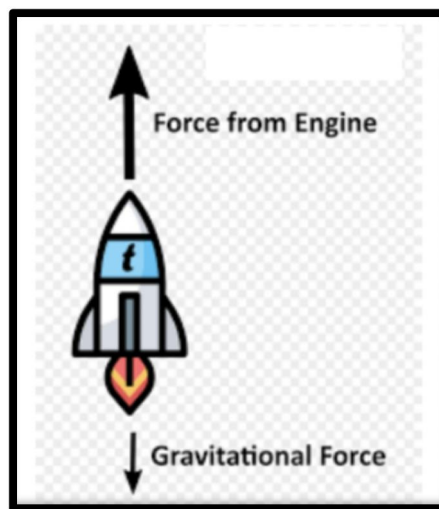

Figure 2.2 Gravitational force acting on the rocket
- The force of gravity on the earth is always directed 'downwards' due to the centre of the earth and equal to the weight of the object as shown in **Figure 2.2**.